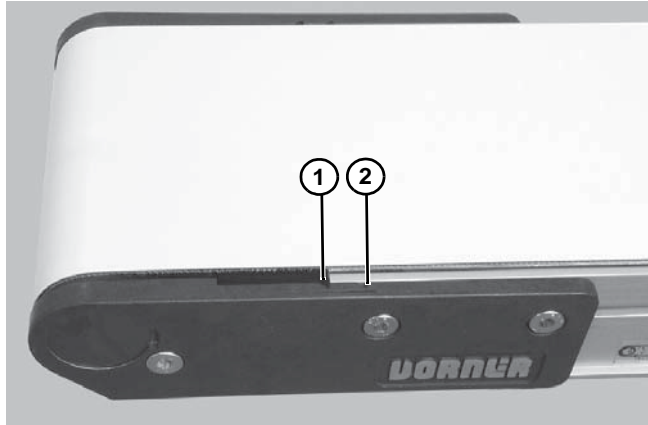

Figure 55
- Adjust head plate assembly so end of conveyor frame aligns with or between the head plate tensioning marks (**Figure 55, item 1 & 2**). Replace belt if proper tensioning can not be obtained while aligning the end of the conveyor frame with or between the tensioning marks. See NOTE.